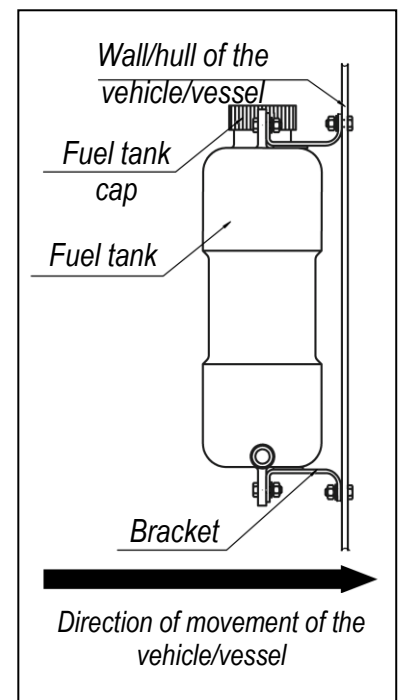

Fig. 20 Installation of the fuel tank
Consider the convenience of fuelling, while installing the fuel tank (Fig.20). Install the fuel tank in such a way that the amount of fuel and its potential leaks from the inlet, fuel suction nozzle or connections can be visually controlled.
**The fuel tank must be installed with its wide side perpendicular to the direction of the movement of the vehicle/vessel (see Fig. 20).**